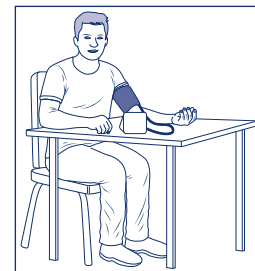

Figure 3
- Check that the measurement arrow for the arm circumference on the closed cuff is within the "Marking for arm circumference" on the cuff edge (Figure 3).